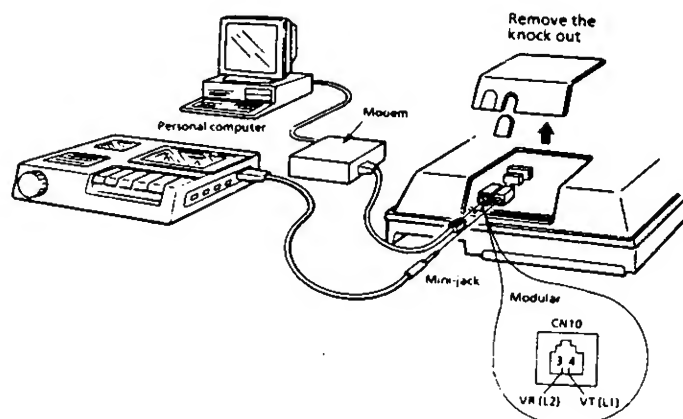

Figure 200-62 Bottom View of ETZ-16D-1 Key Telephone for Jack Locations
2. Connect the mini-jack of the recording device to CN11 -or- connect the modular connector of the modem to CN10, as shown in Figure 200-62.